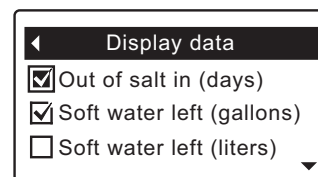

FIG. 67
4. Press the SELECT (○) button to display the Display data screen (See Figure 67).